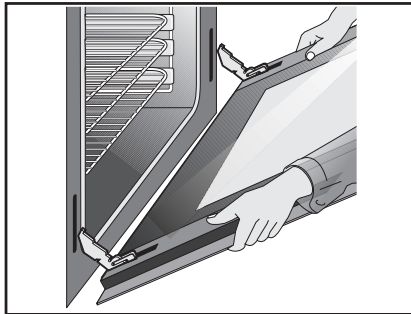

**Figure 9**
**4.3** **IMPORTANT** For existing cutout width of **29" (73.7 cm)** (Figure 9):